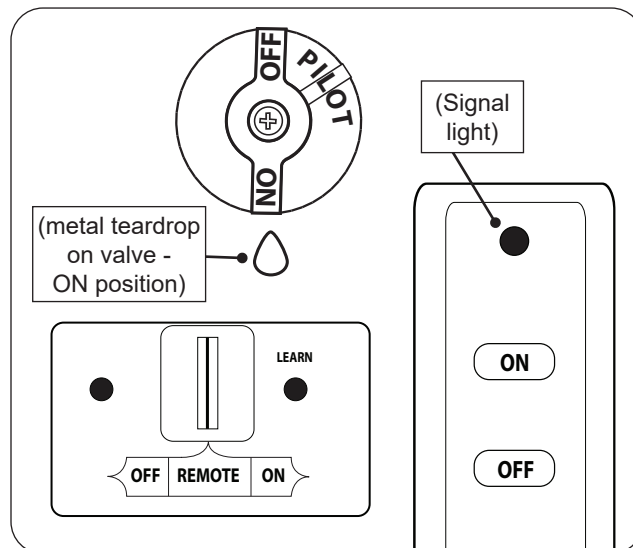

Fig. 25-1 Remote lighting
1. Ensure the pilot is burning. Turn the control knob counterclockwise ↶ to **ON** (see Fig. 25-1).
2. Locate the 3-position switch on the remote receiver, and slide the switch to **REMOTE** (see Fig. 25-1).
3. Locate the remote transmitter and press the **ON** button (see Fig. 25-1). The ignition sequence will begin.